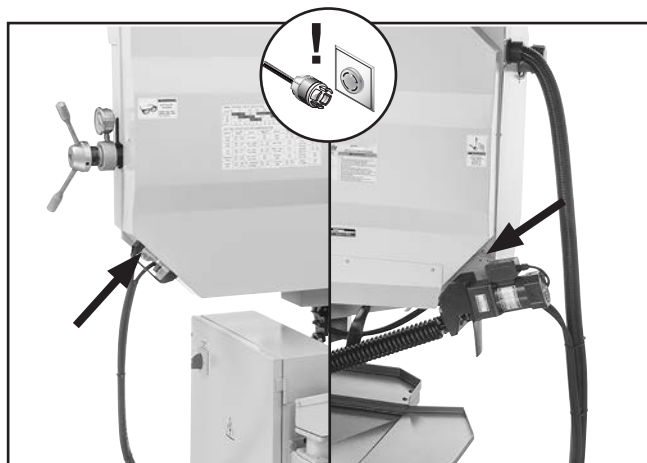

Figure 40. Wheel cover secure screw locations (2 of 4).
2. Open wheel cover by removing (4) button head cap screws (see **Figure 40**).